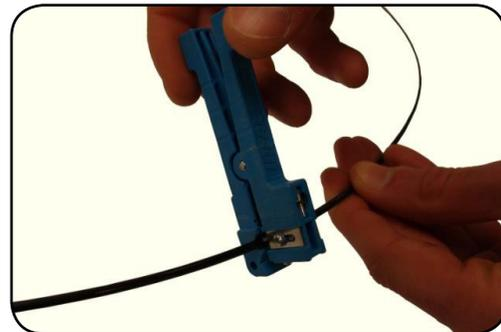

Figure 2
**Step 2:** Ring cut and remove the jacket using a rotary tube cutter available from Clearfield (**Figure 2**).